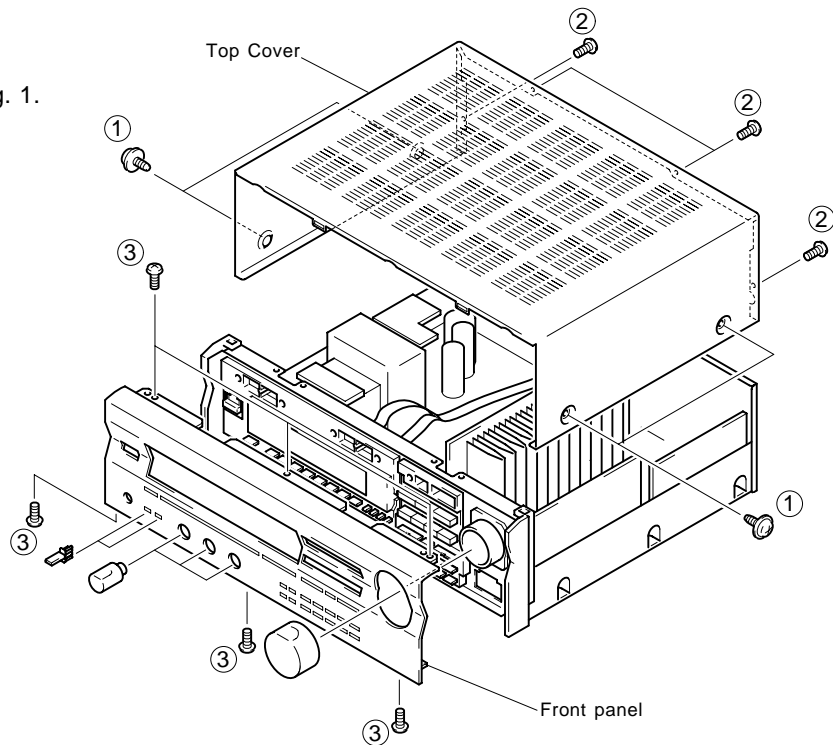

Fig. 1
- ⑧ P. C. B. TUNER
- ⑨ P. C. B. MAIN (2)
- ⑩ P. C. B. INPUT (6)
- ⑪ P. C. B. OPERATION (2)
- ⑫ P. C. B. MAIN (1)
- ⑬ P. C. B. OPERATION (1)
- ⑭ P. C. B. INPUT (1)
- ⑮ P. C. B. INPUT (4)
a. Remove 4 screws (①) and 4 screws (②) in Fig. 1.
b. Remove 6 screws (③) in Fig. 1.